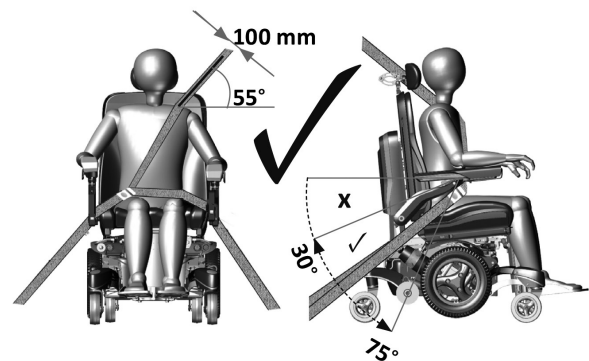
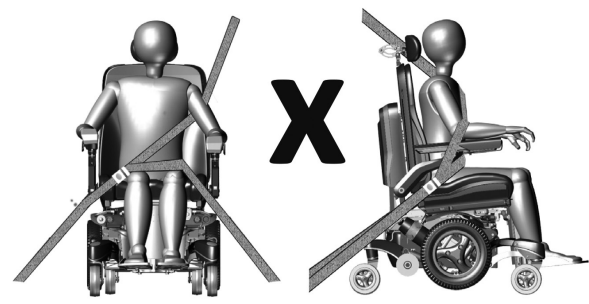

Figure 5.5 - correct positioning of three-point occupant restraint
Figure 5.6 - incorrect positioning of three-point occupant restraint
- Restraints should be mounted to the appropriate vehicle pillar and should not be held away from the body by powerchair components such as armrest or wheels (Figure 5.6)
- A pelvic belt should be worn low across the front of the pelvis so that the pelvic belt restraint angle is between 30° - 75° relative to the horizontal (Figure 5.5)
- A steeper (greater) angle within the preferred zone is desirable (Figure 5.5)
- The upper torso restraint belt must fit over the shoulder and across the chest as illustrated (Figure 5.5). Do not fit restraint belt as shown in Figure 5.6